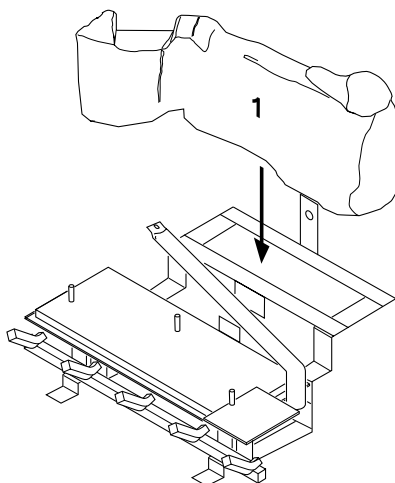

Figure 50 - Installing Log No. 1
1. Place log #1 (back log) on grate. Make sure the lower middle section of the log fits securely into the open area in back of grate (see Figure 50).